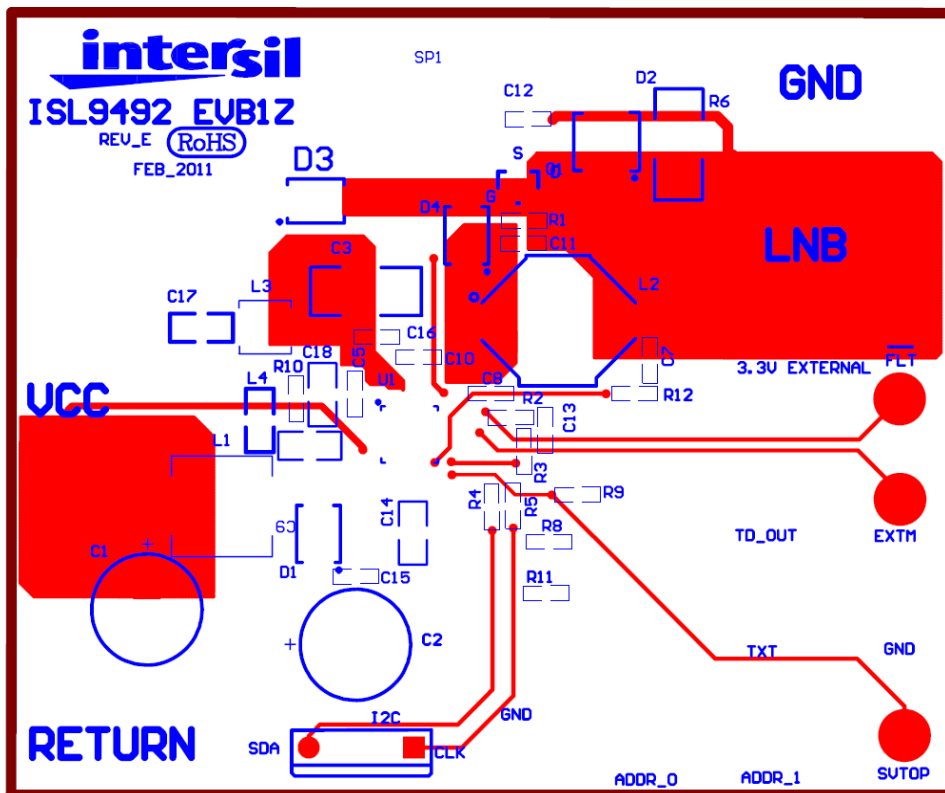

FIGURE 12. LAYER 4
5. The bottom layer is used to connect output power post to D3, which connects back to C2 (see Figure 12).